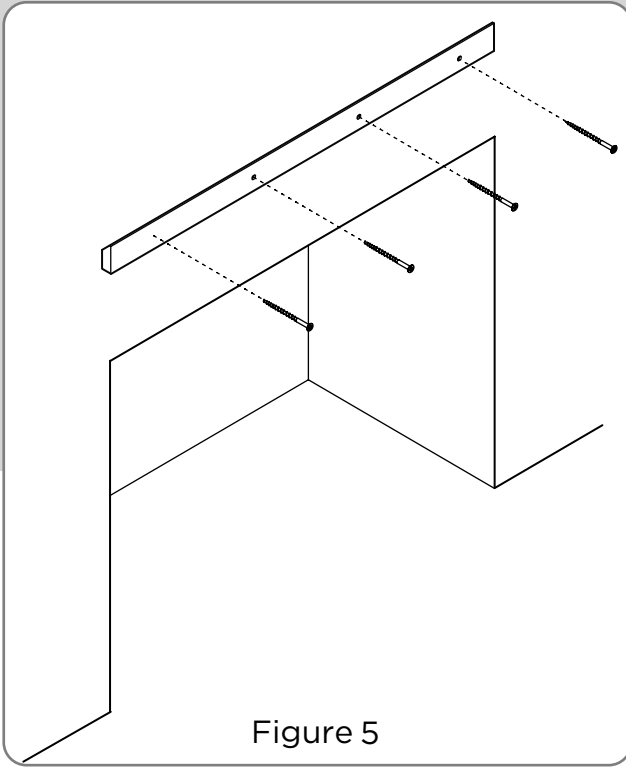

Figure 5
8. Attach the cleat to the wall using provided anchor screws (C) (Figure 5)